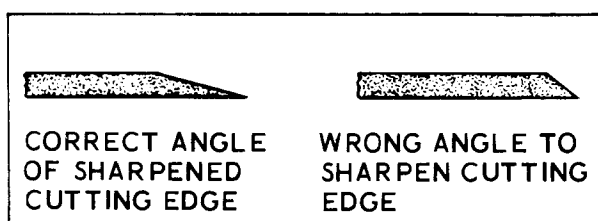

FIGURE 9
4. Mower deck belt replacement. See Figure 9.
5. Sharpening Blades. See Figure 9.
With the engine shut off and after the blades have stopped spinning, check the mower blades periodically for nicks or dullness. Damaged, dull or improperly sharpened blades can cause a shattered, rather than, clean cut and brown areas of grass may develop. Refer to Figure 9 for the correct sharpening angle. Sharpened edge must be at least 2-1/2" (65 mm) long.